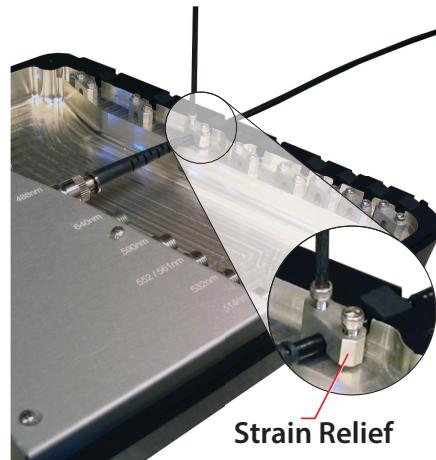

Figure 5-19. Remove Strain Relief Screws
3. Using the 5/64" hex wrench, take out the two strain relief screws and remove the strain relief, as shown in Figure 5-19.